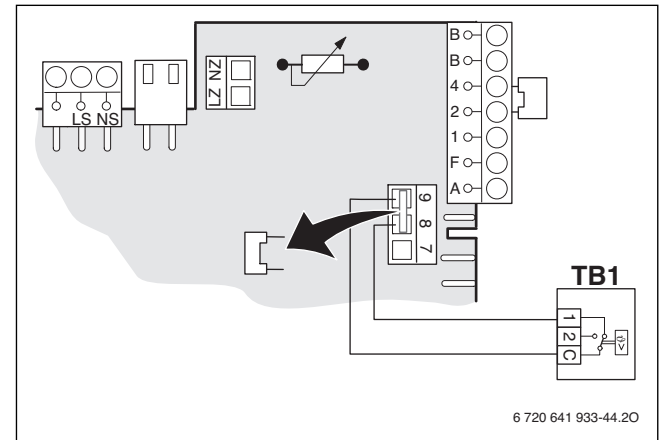

Fig. 47 Electrical wiring TB1
- Connect the leads labeled SWITCH CONTACT (yellow) to the TB1 temperature guard (→ Fig 47, page 47) on the Heatronic.